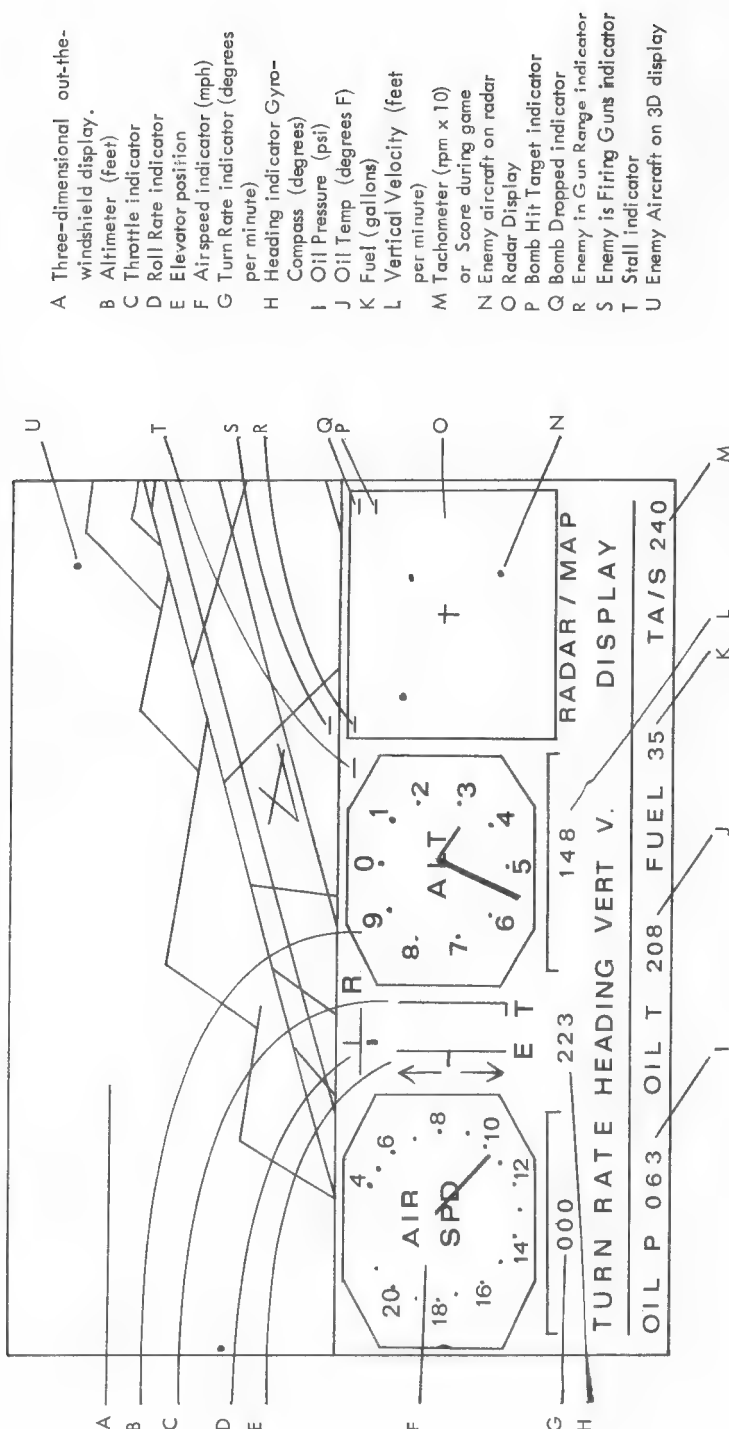

Figure 1. A2-F51 Cockpit Instrumentation.
Figure 1 defines the FS1 screen instrumentation. The screen is split horizontally into two parts: the upper 3D out-the-window display and the lower instrument panel. The screen instrument functions will now be described in detail.
**Airspeed Indicator** -- This gauge (see figure 1) reflects the trajectory velocity of the aircraft. It is read as a car speedometer is read, but is pinned at its low reading of 40 mph until that speed is passed. Readings under 40 are not of great use because this is an air pressure activated gauge.
instrument panel (see figure 1). It will move from side to side as you turn the rudder right and left. Seven notches of rudder to either side are available. The more notches you use, the faster you will either ground steer or roll into a bank.